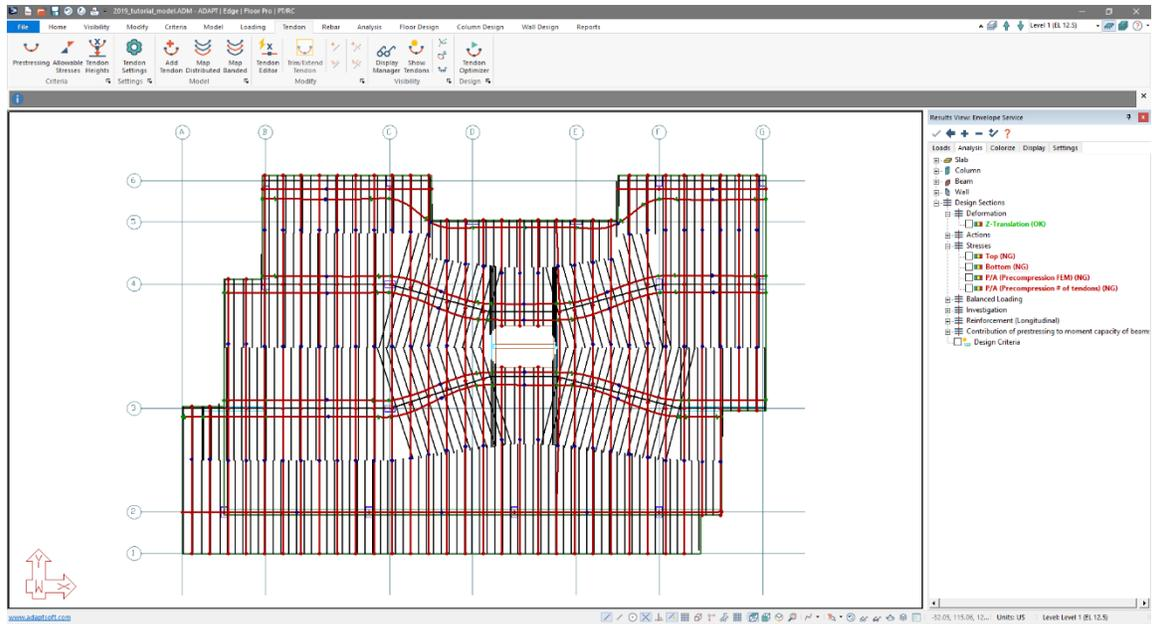

Figure 9-87
- The user’s screen should, at this point look similar to **FIGURE 9-87**.